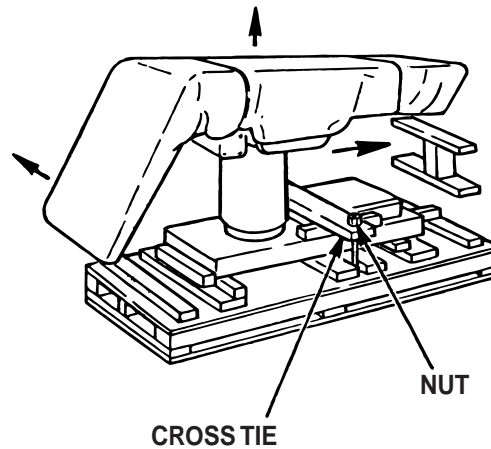

Figure 2.
2. Use an adjustable wrench to remove the nuts securing the cross tie(s). It may be necessary to hold the threaded rod with a pair of pliers, or use grips when removing the nuts. Connect the hand control unit to the table connector, plug the power cord into electrical outlet, and raise the table top approximately 10" to 12" and extend the foot/leg section. Remove all braces and cross tie(s). See figure 2.